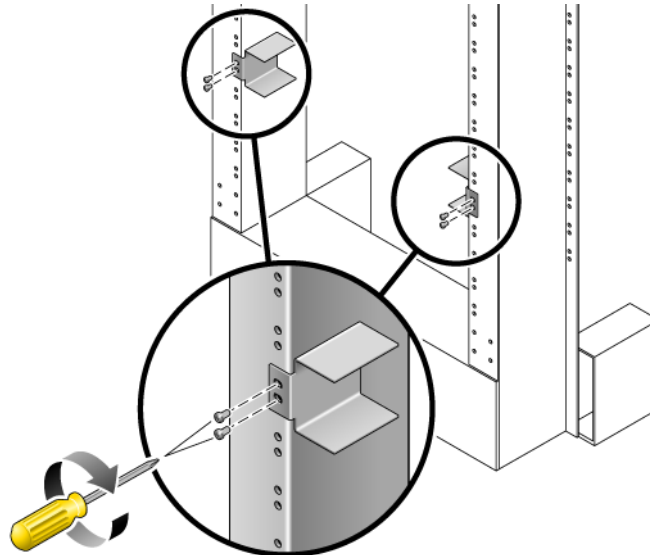

FIGURE 3-3 Mounting the Rail Guides to the Rack
4. Lift the rail guides to the desired height in the rack. Using two screws for each rail guide, secure both rail guides to the rack (FIGURE 3-3).